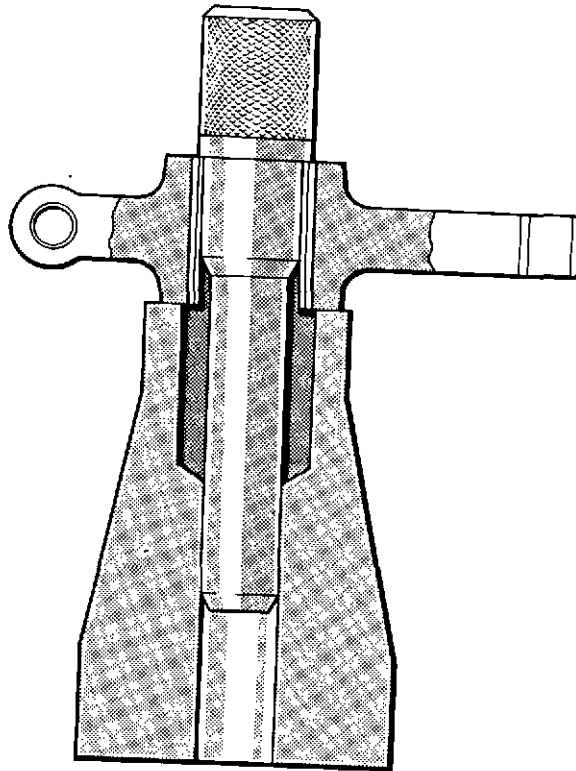

Fig. 18 Removing rocker arm bush
- 76 Fit each rocker arm on to the shaft and check the clearance in the rocker arm bush. If the clearance is excessive, drive out the bush using the Removal Tool, VT 12814, (fig. 18) and a hand press.